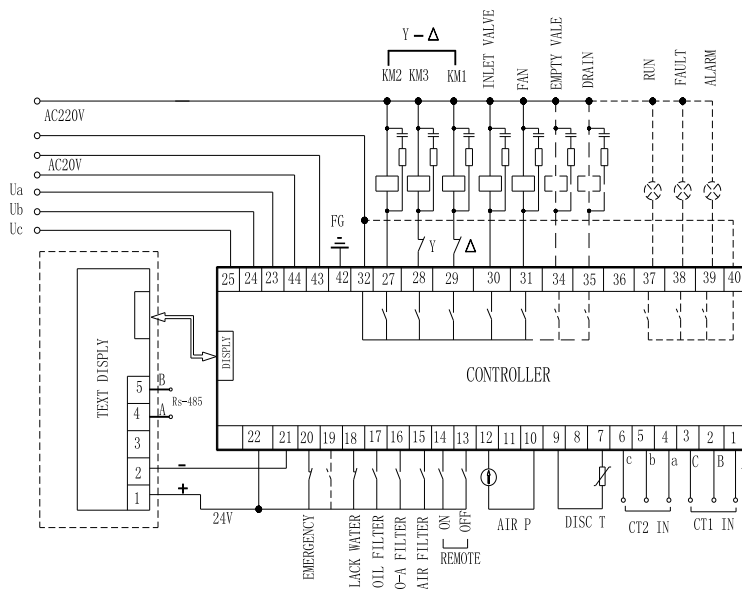

Figure 4.4.1. Terminal arrangement diagram
- ①. Wiring diagram and electrical installation of MAMKY02S are shown in following figure (figure 4.4.1):